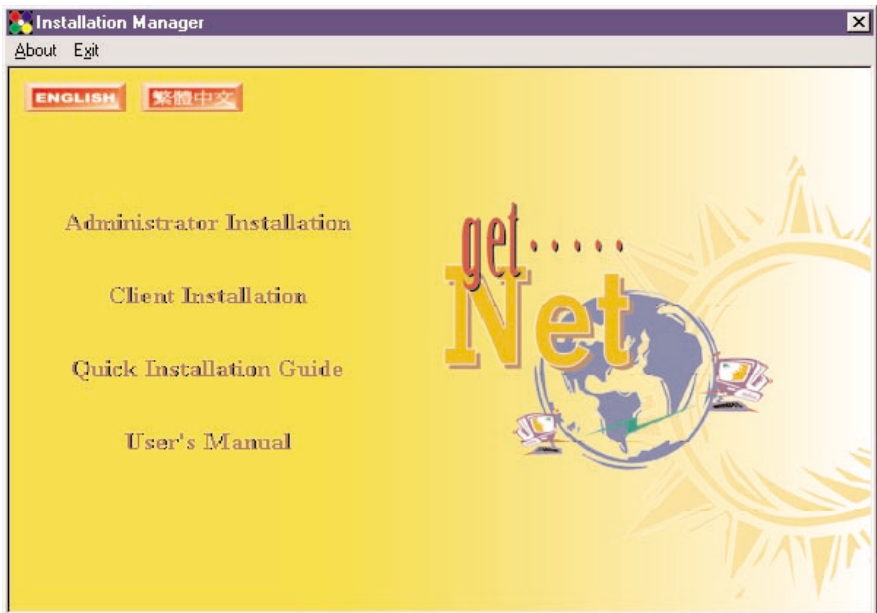

Figure 4-17. Installation Manager screen.
2. The Installation Manager will appear (see Figure 4-17).